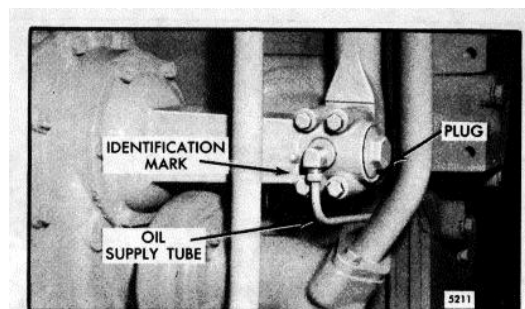

Fig. 15. Governor Weight Housing
5. Refer to Fig. 2 and position the lower end of the Fig. 15 Governor Weight Housing control housing over the dowel pins of the weight housing. The finished surface of the operating fork must be placed against the outer side of the thrust bearing.
NOTE: For ease in assembling the governor control housing to the interim weight housing (no identification mark, Fig. 15), install a special bolt (3/8"-24 x 3/4" or 7/8"), from which the outer 1/2" of thread down to a diameter of 5/16" to 1/4" has been removed, as a tool in the 1/8" NPTF oil hole to prevent the thrust bearing from moving too far forward in the weight housing. Current weight housing has two ribs cast on the inner surface of the housing to prevent any part of the riser thrust bearing from sliding forward to where the operating fork could be inserted on the wrong side of one or more parts of the bearing.